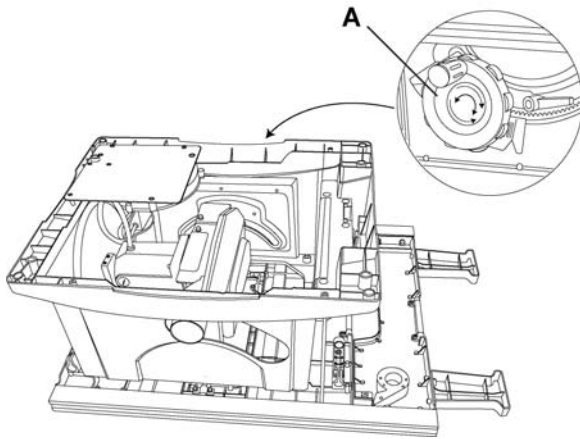

Figure 44
4. Tilt the blade elevation/tilting handwheel (A, Fig. 44) to the 45° position.